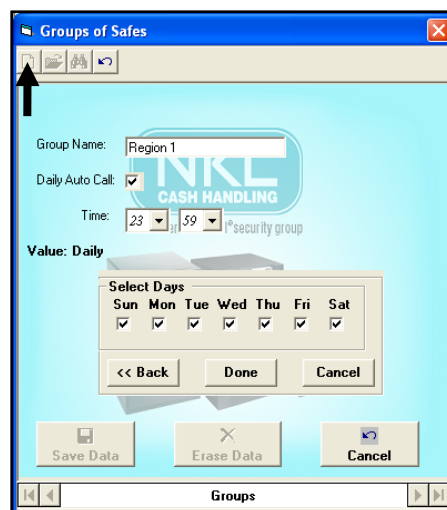

Fig. 7.9
- 3) Click the **Add Group** icon in the group window (Fig. 7.9) and then enter the appropriate information into the fields: